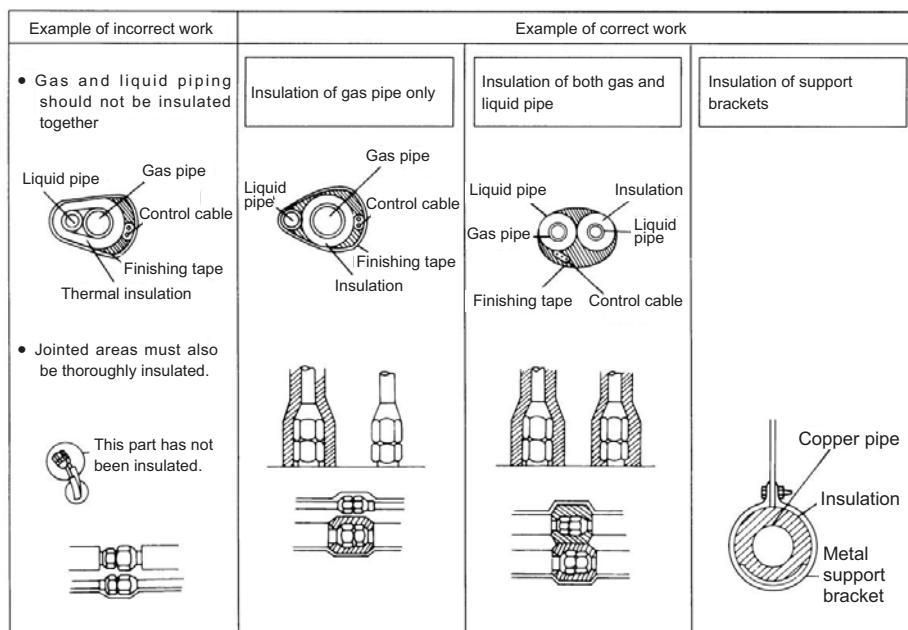

Figure 3-1-6
- ◆ The joint connecting to the indoor unit must be wrapped by thermal insulation material. There shall be no gap between the connecting pipe joint and the wall of the indoor unit. Refer to Figure 3-1-6.